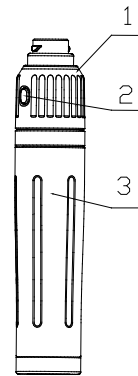

Fig.1
- Depress On /Off. Button (2) on Rheostat Section (1) and rotate the light intensive control. Refer to Fig.1.